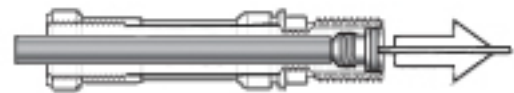

Figure 22 - Removal of crown
15. When the crown has been disengaged from the valve body, carefully insert the pin of the seat extraction tool (PN 109436) through the opposite end of the valve body and through the opening in the center of the crown. Gently press the crown out (see Figure 22). Remove and discard the O-ring (26).